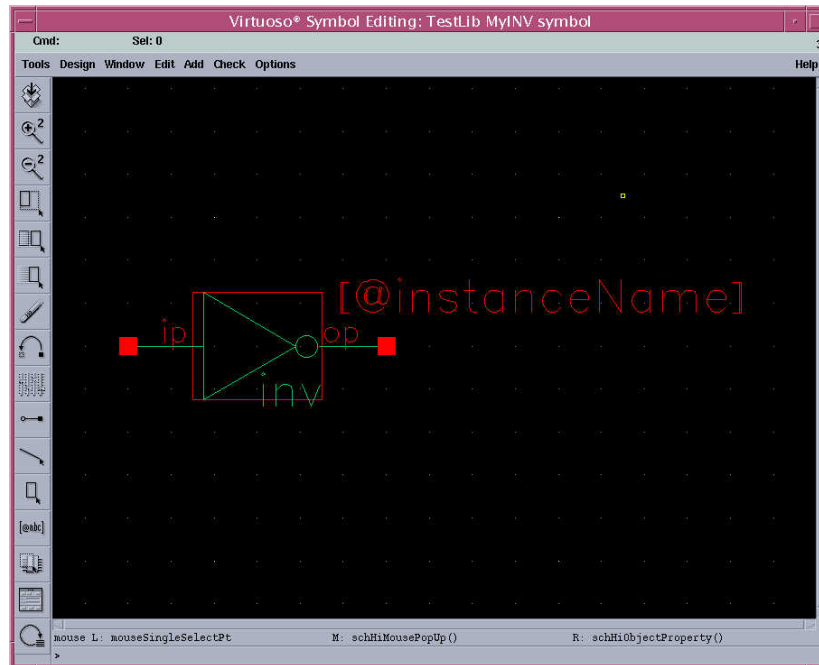

Figure 12. The inverter's symbol.
2. Stamp the symbol down into the symbol editor, as shown in Figure 12. (note that the names of the pins will need to be changed so that they match the names that were assigned to the inverter in the schematic cell)